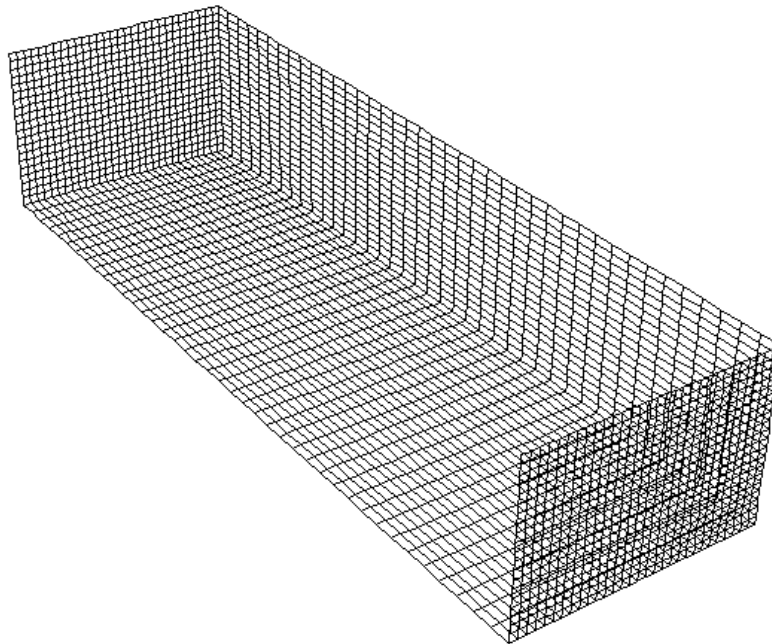

Figure 4. 3D mesh output from Step-by-step Application 3.
5. Click the check boxes next to **ND 1 MAX** and **ND 3 MIN** (**ND** refers to the **SutraPrep** Numbering Directions; see Appendix C). The mesh is redrawn without the faces at the end of the first numbering direction, and at the beginning of the third numbering direction. The plot in the graphics window should be similar to Figure 4.